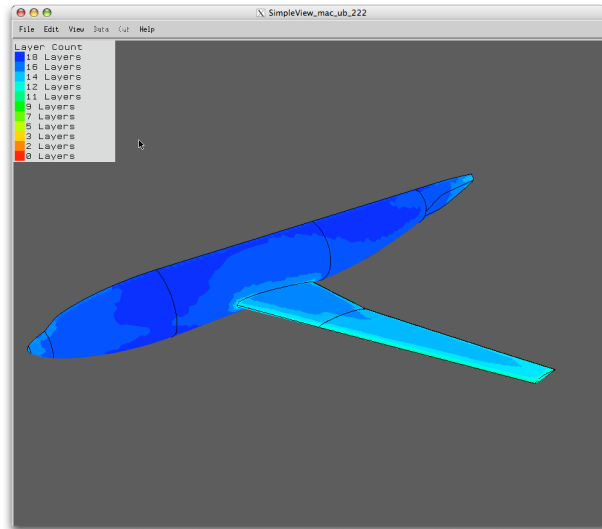

Figure 3.2.3 Layer count display
**SimpleView** will automatically display the layer count as a shaded surface with the colors representing the different layer count levels, as shown in Figure 3.2.3. Layer Count colors are always scaled from zero to the maximum layer count; orange and red almost always indicate problem areas in the grid, as they indicate areas where the layer count is very low (with red indicating zero layers). To toggle the layer count display, select the Layer Count option from the